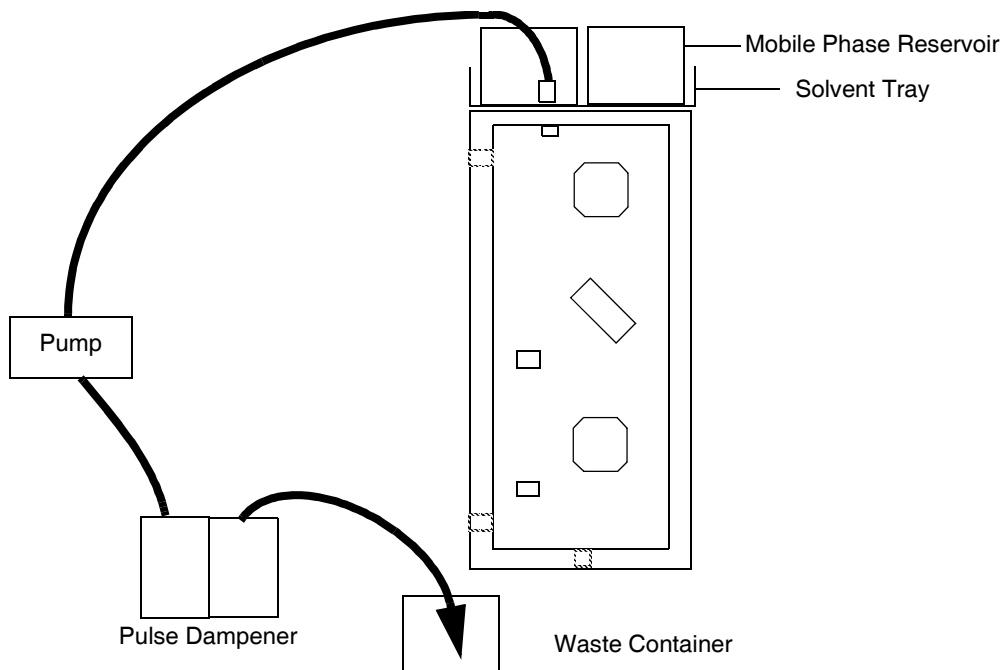

Figure 2-8 Installing the External Pump and Pulse Dampener
3. Install a pump (see the manufacturer's instructions), pulse dampener (optional), waste container, solvent tray (optional), and mobile phase reservoir (Figure 2-8):